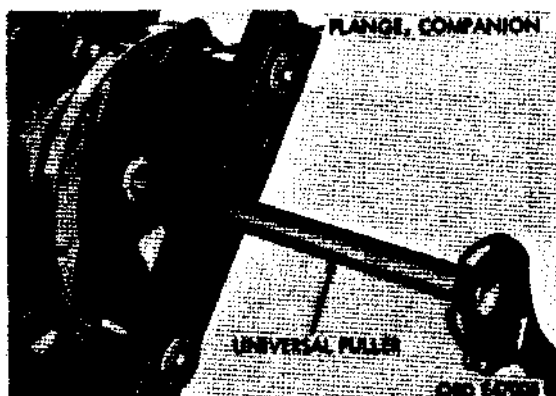

Figure 249. Removing companion flange
(2) Main shaft assembly.
- (a) Remove cotter pin and slotted nut. Use a universal puller to remove companion flange (fig. 249) from main shaft.